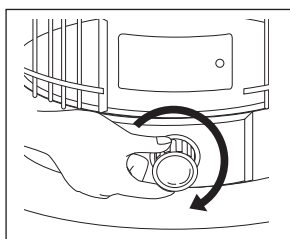

Fig.12
- Turn the wick adjuster knob clockwise until the wick has been raised to its maximum height. (Fig.12)